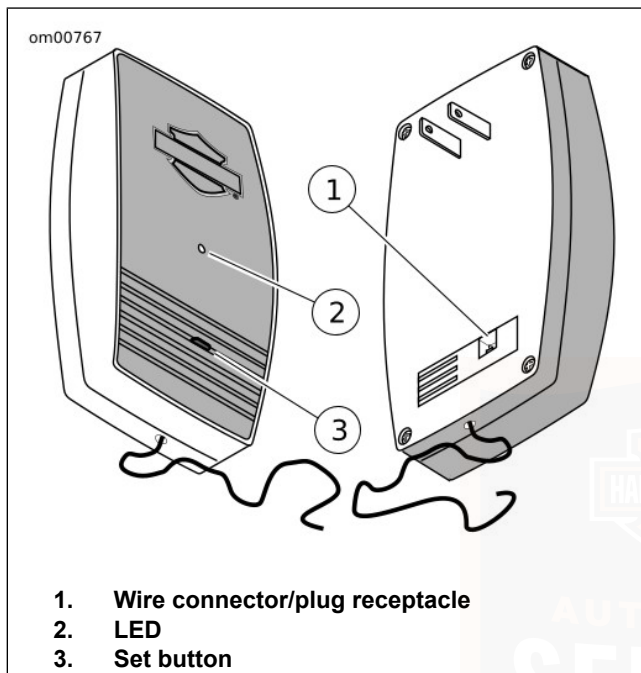

Figure 70. Garage Door Opener Receiver: FLHTCUSE
7. See Figure 70. Plug the connector on the Harley-Davidson garage door opener receiver wires into the receptacle (1) on the back of the Harley-Davidson garage door opener receiver.
2. See Figure 70. Press and hold the Set button (3) on the Harley-Davidson garage door opener receiver. The LED (2) blinks continuously while the Set button is pressed.